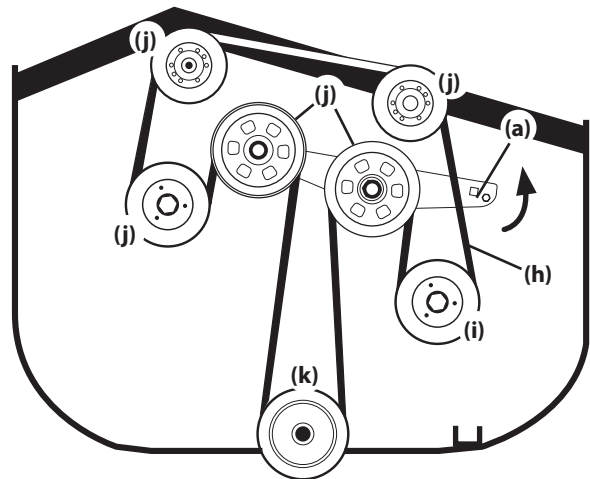

Figure 39
5. Using a 1/2" (12.7 mm) drive in the idler pulley bracket (g), turn the wrench towards the front of the mower and slide the PTO drive belt (h) off the right spindle pulley (i) (Figure 39).